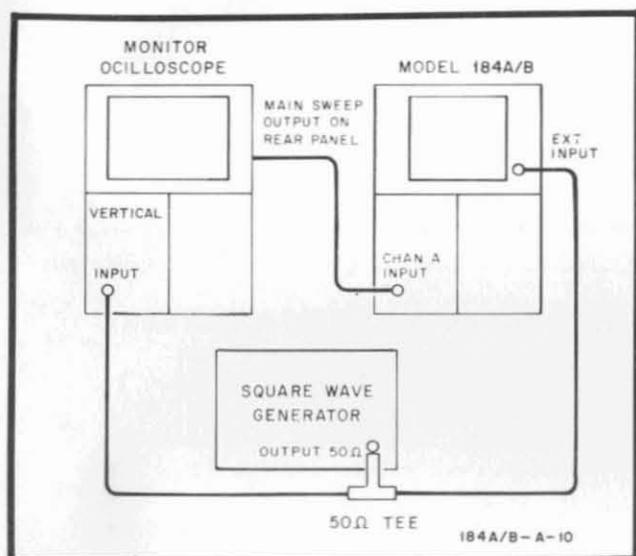

Figure 5-13. Transient Response Adjustment
b. Connect 1V p-p square wave at 200-kHz repetition rate from square wave generator to EXT INPUT and to monitor oscilloscope vertical input (figure 5-13).